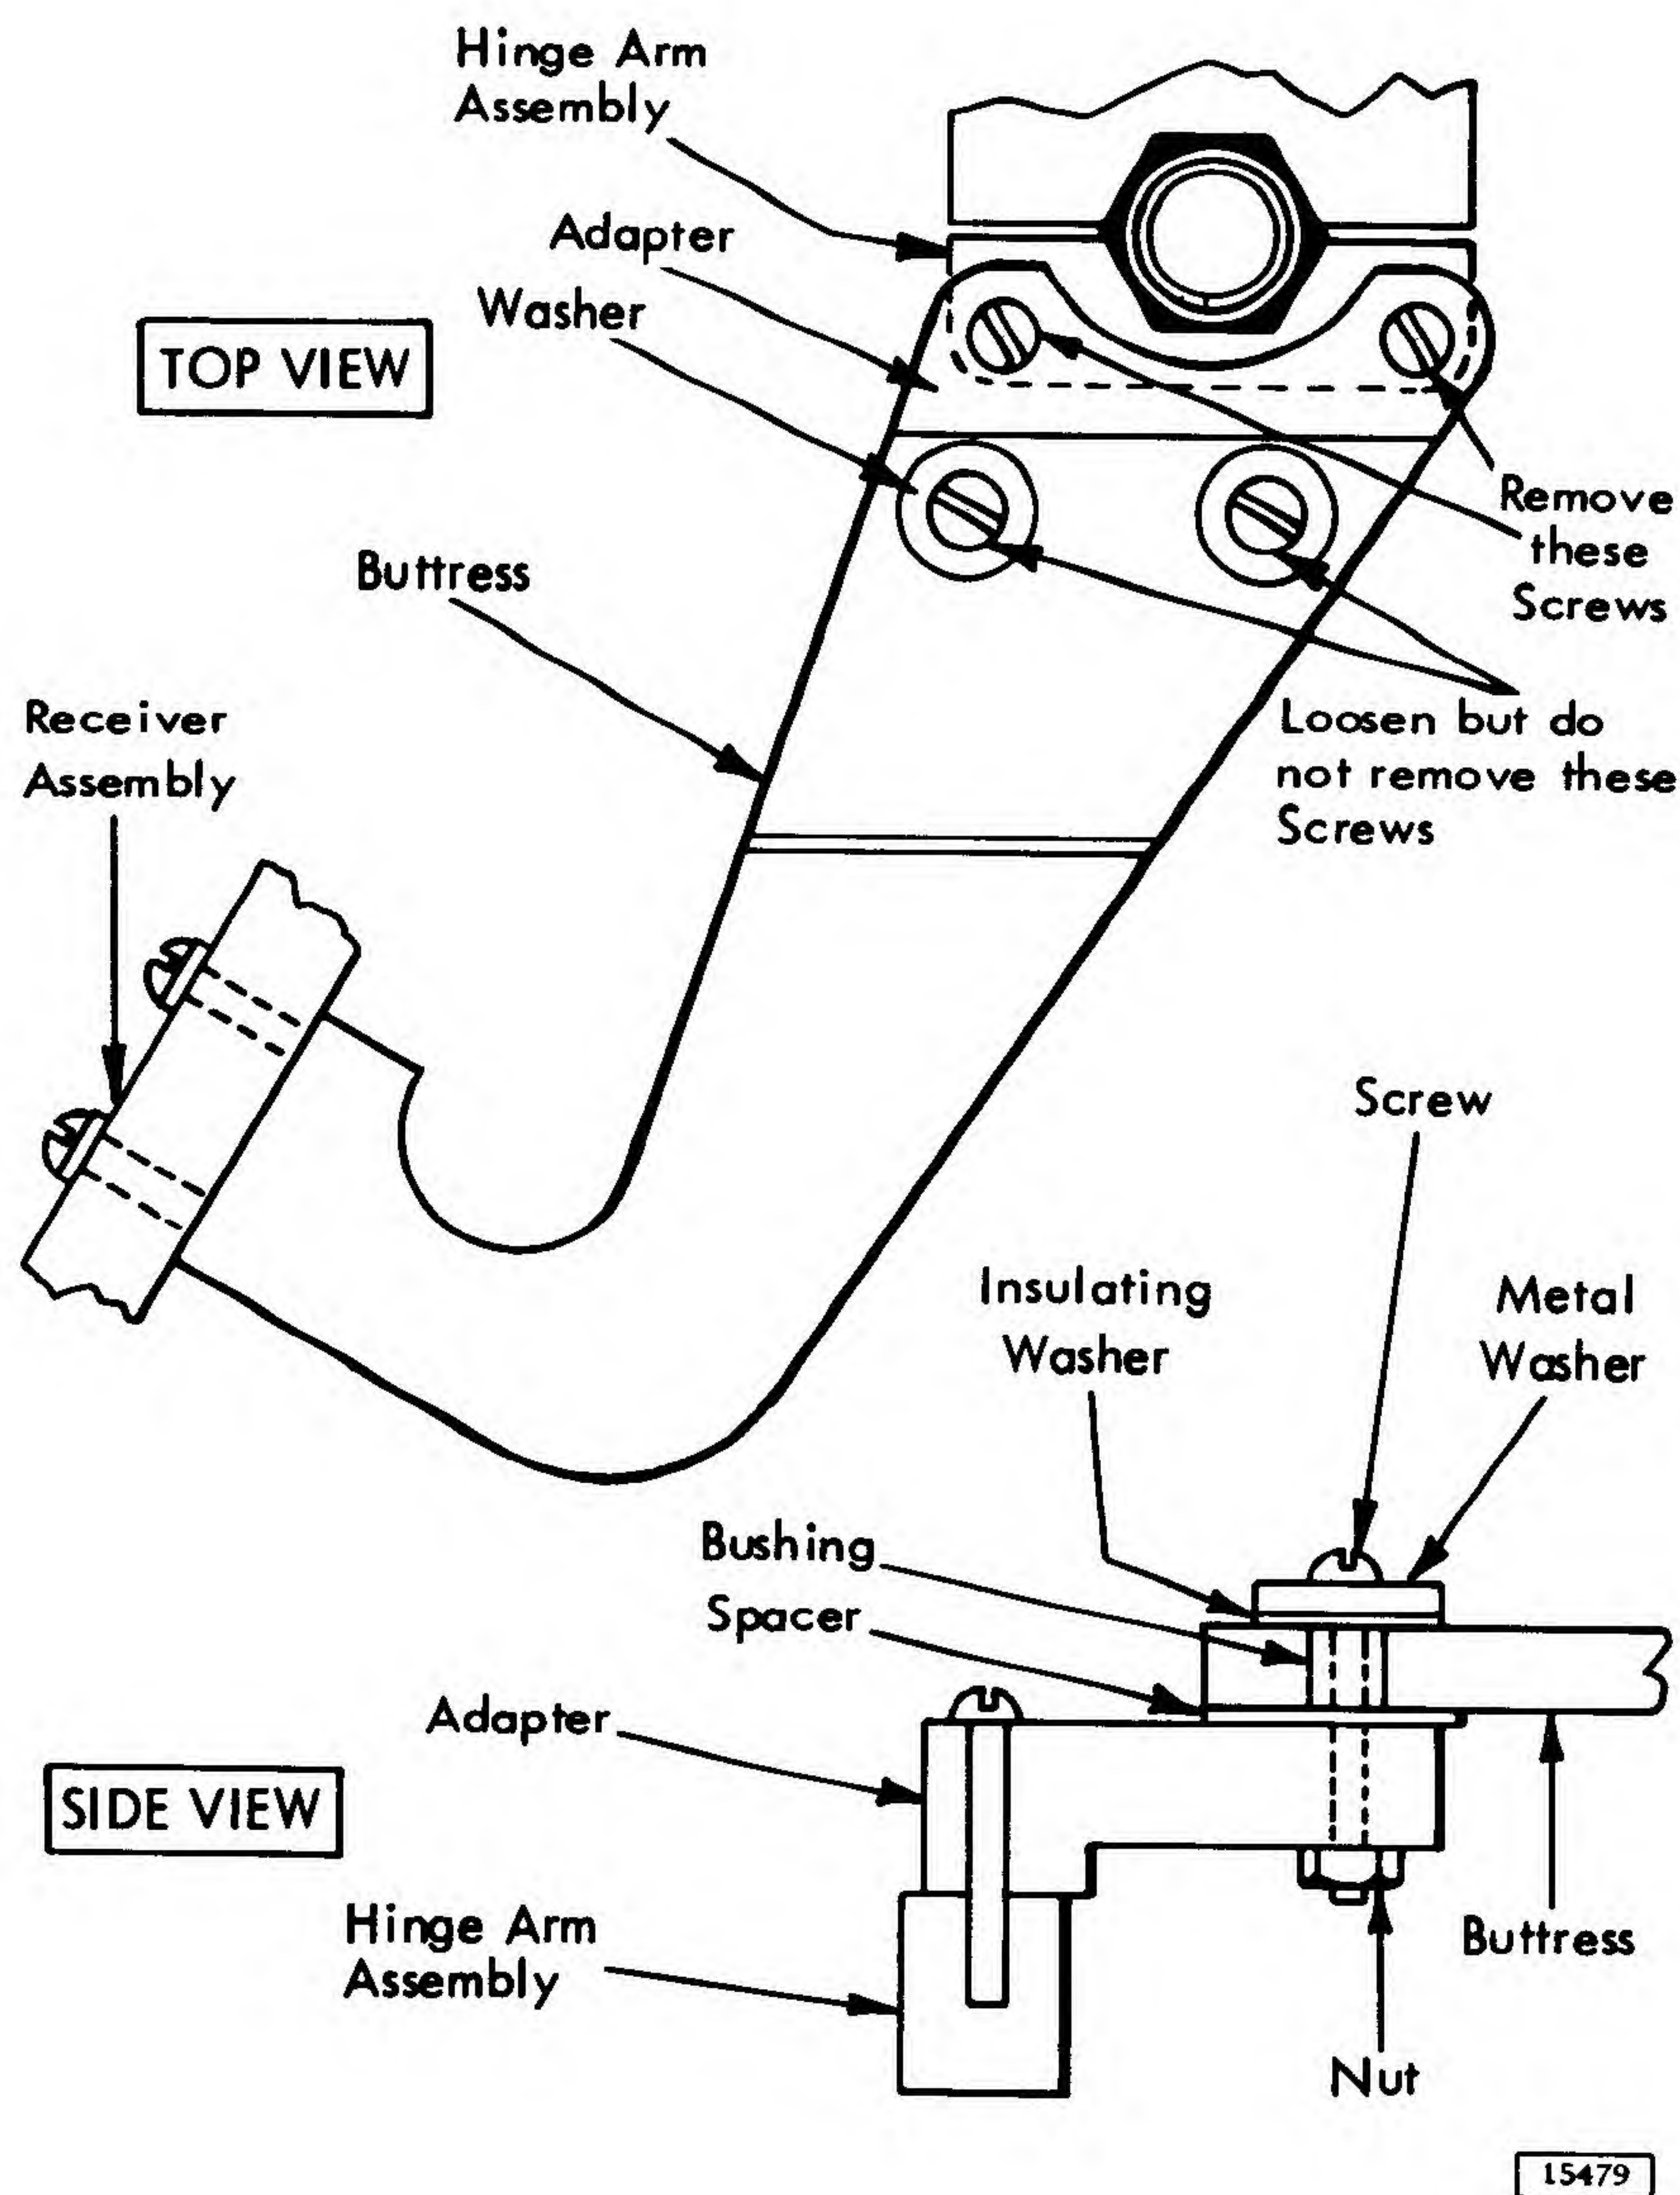

Figure 2-19. Buttruss and Adapter Assembly
3. Loosen but do not remove the screws and nuts that secure adapter to buttress (top and bottom buttress) (Figure 2-19).
4. Remove screws that retain adapter on hinge arm (top and bottom hinge arm) assembly (Figure 2-19).
- e. Replace the two screws that retain adapter on hinge arm assembly. Tighten screws and nuts that secure adapter to buttress (top and bottom buttress assemblies) (Figure 2-19).